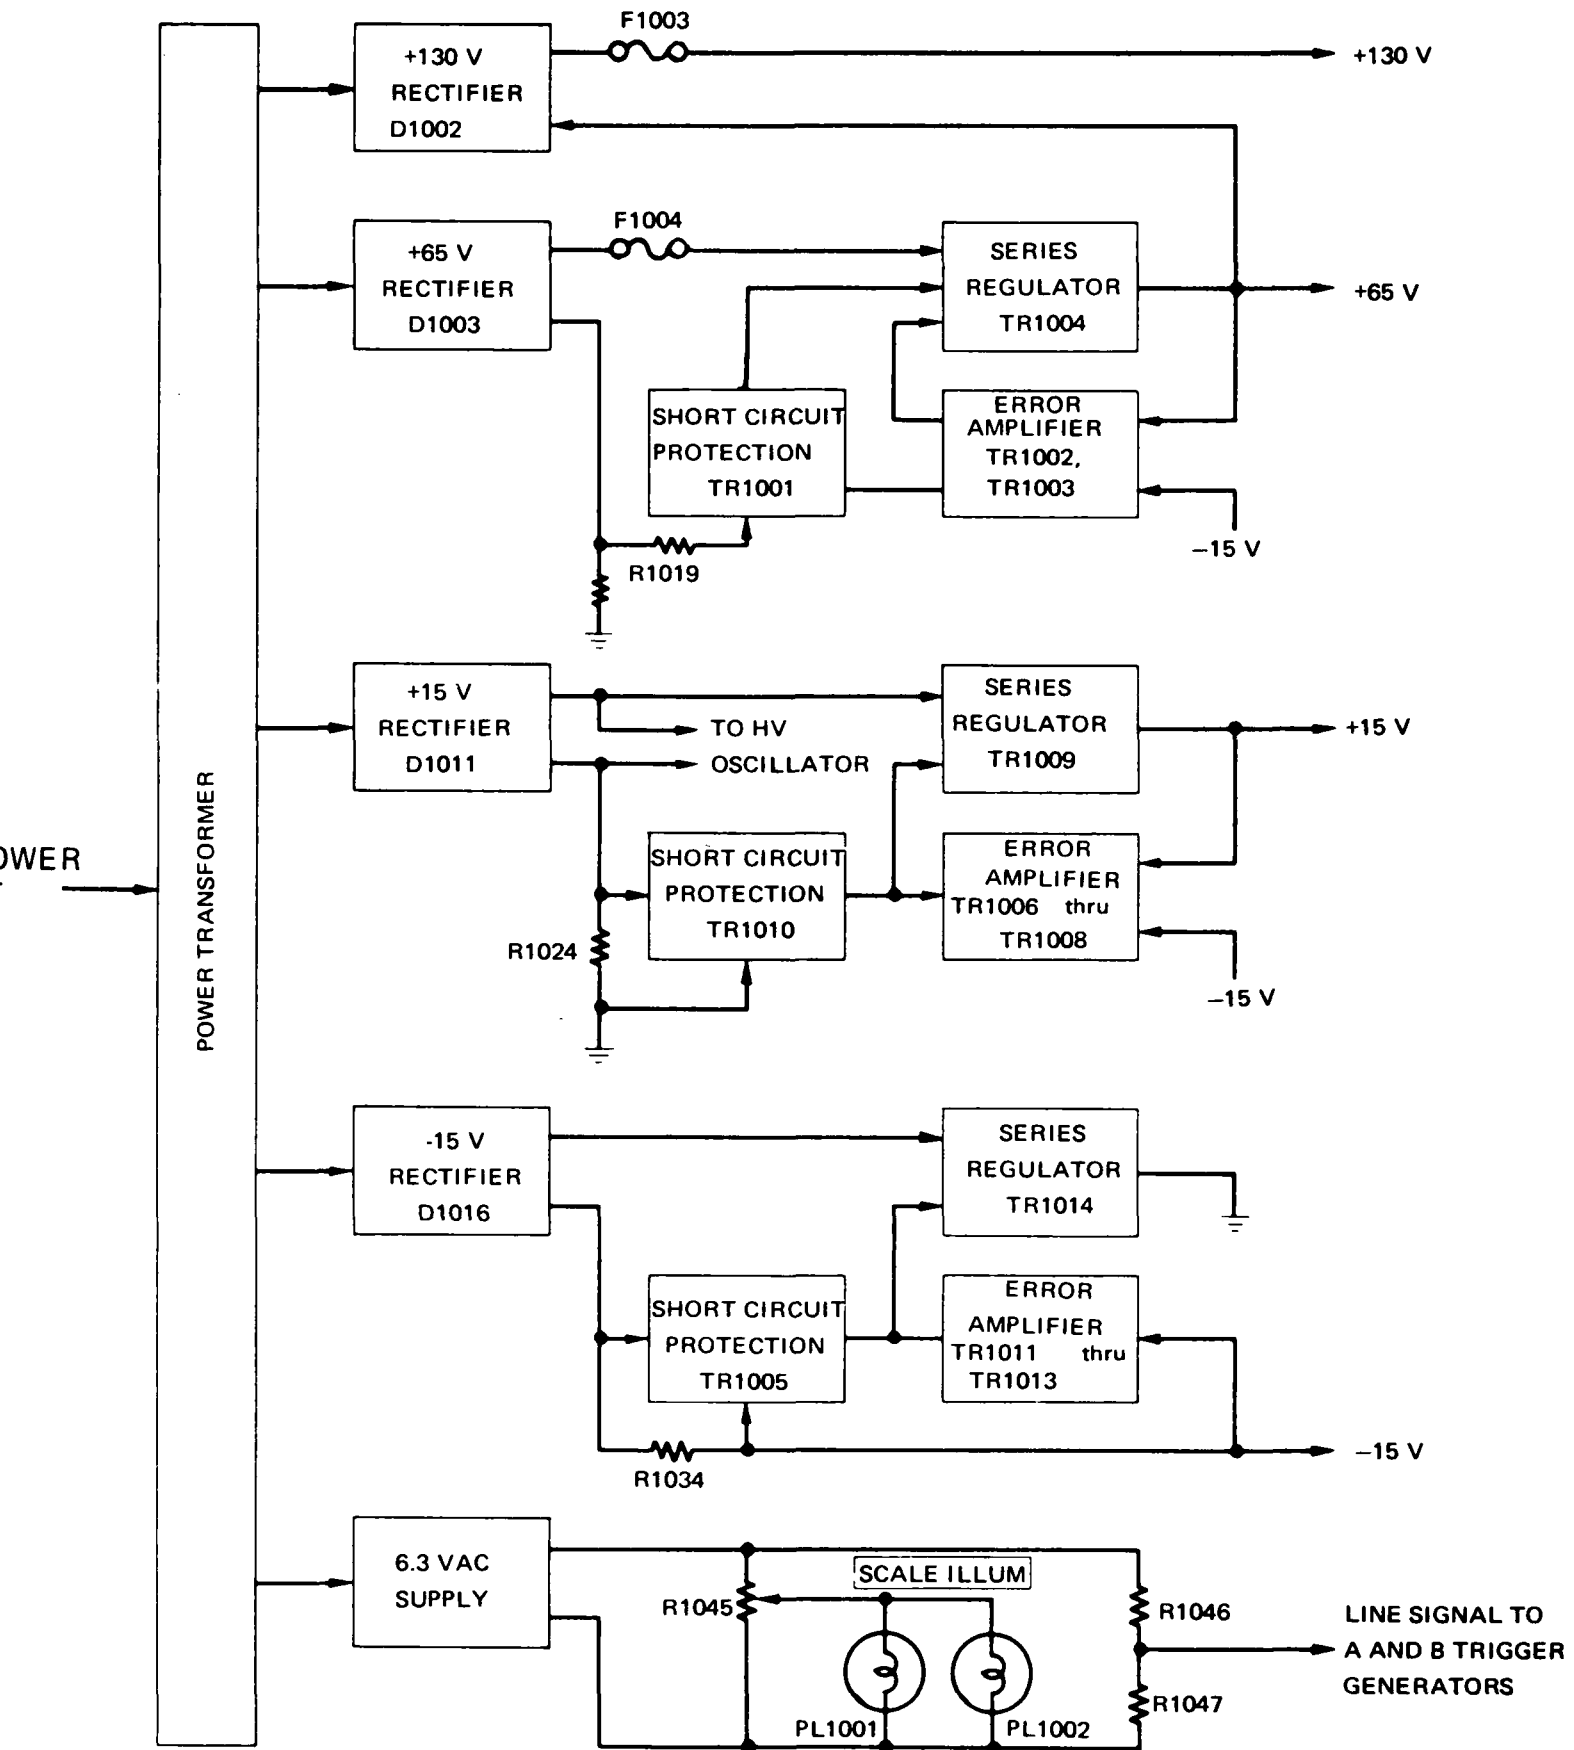

Figure 3-29 Low Voltage Power Supply Block Diagram
o. LOW VOLTAGE POWER SUPPLY (Schematic 16). Configuration of the power supply circuit is shown in Figure 3-29. The power supply consists of three regulated power supplies, a 6.3 Vac source, and unregulated +150 V and +130 V sources.